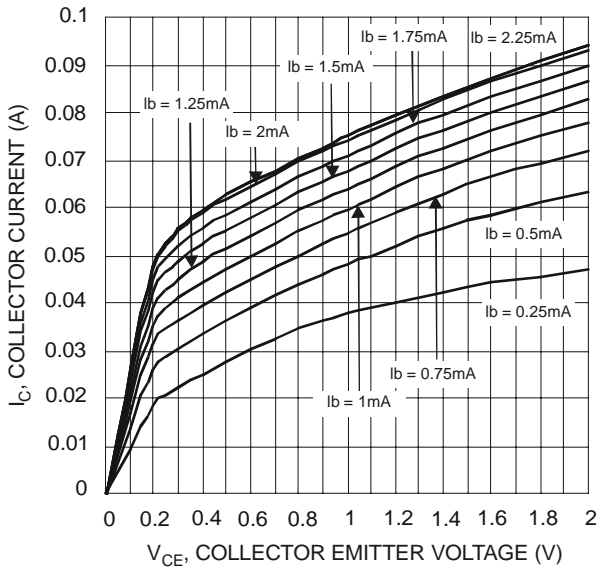

Fig. 2  $V_{CE}$  vs.  $I_C$
- Terminal Connections: See Fig. 2